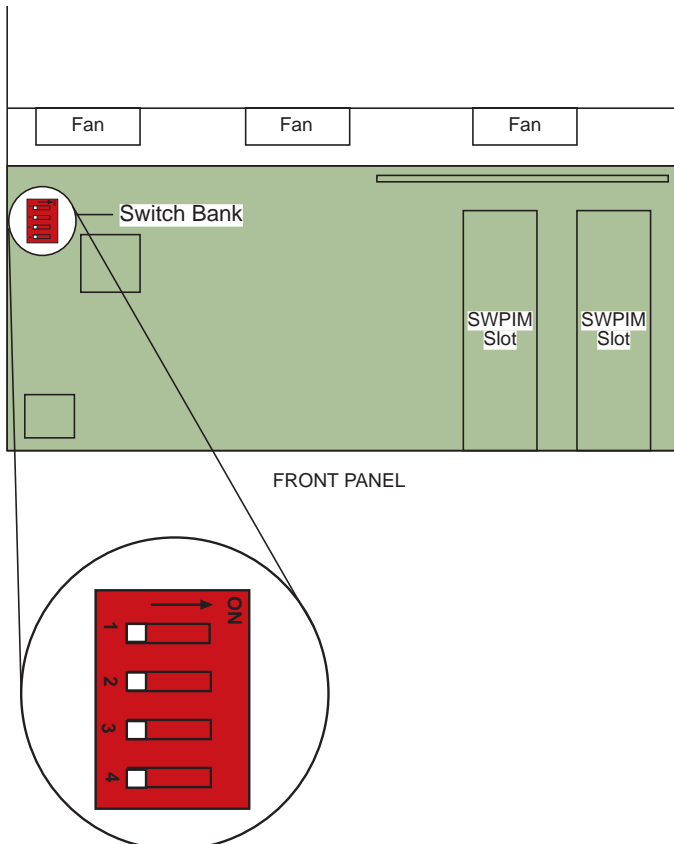

Figure 4-2 Switch Bank Layout
4. Locate the switch bank in Figure 4-2. For the function you need, flip the appropriate switch from one side to the other side. The initial state of the switch does not matter.